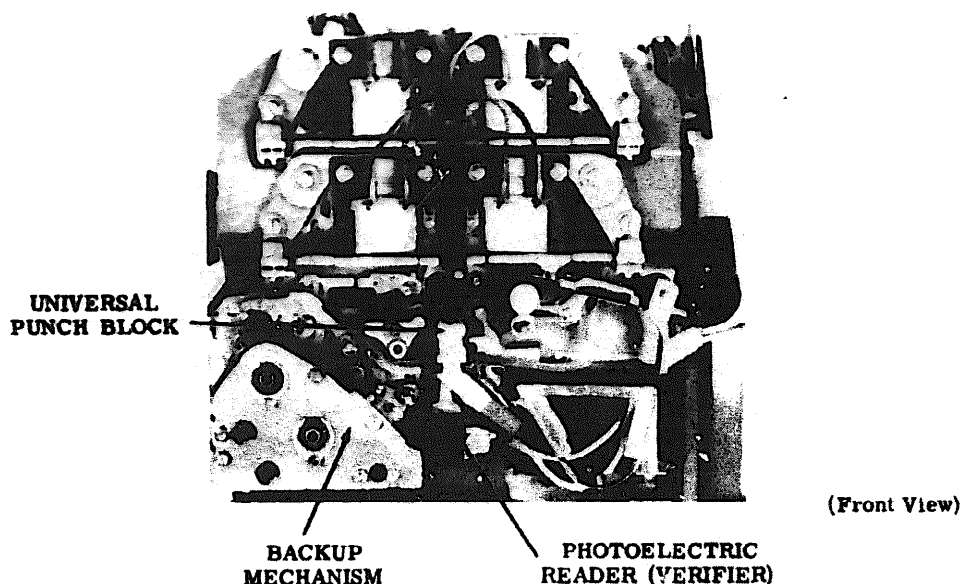

Figure 16 - 8-Level Tape Punch With Variable Features
2.10 The high speed tape punch unit may be equipped with a photoelectric sensing assembly which includes a light source assembly, isolator tube, mirror tube assembly, chad chute, and a punch block with verifier (Figures 16 and 17). The verifier portion of the punch block contains the phototransistors. The parallel output of the phototransistors corresponds to the hole or no-hole condition of the paper tape and follows one character after the perforating position. The photoelectric reader assembly is intended for use in error detection systems or wherever it is necessary to regenerate a signal from the tape one character after perforation.
VARIABLE FEATURES (Figure 16)**A. Photoelectric Reader (Verifier)****General**